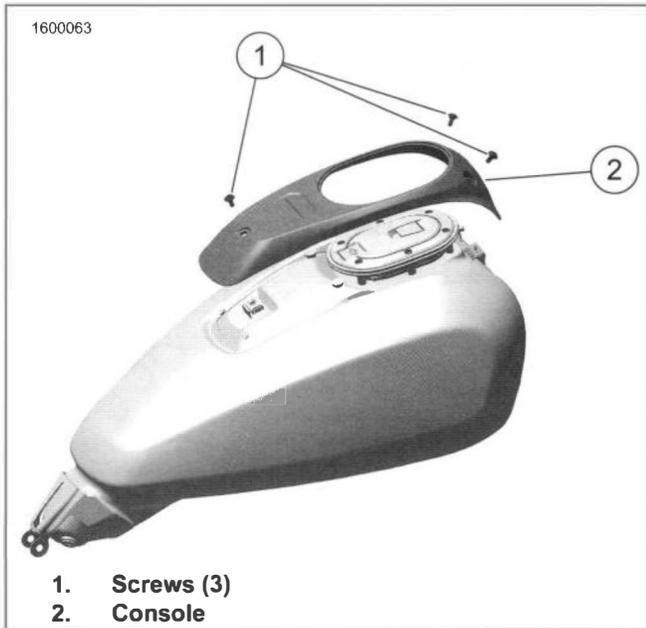

Figure 6-8. Console
1. See Figure 6-8. Remove screws (1).
2. Lift and remove console (2).